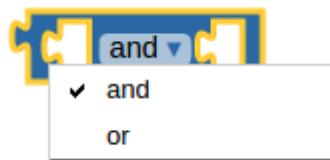

Figure 107: Logical Operators Block
*Logical Operators* (Figure 107):